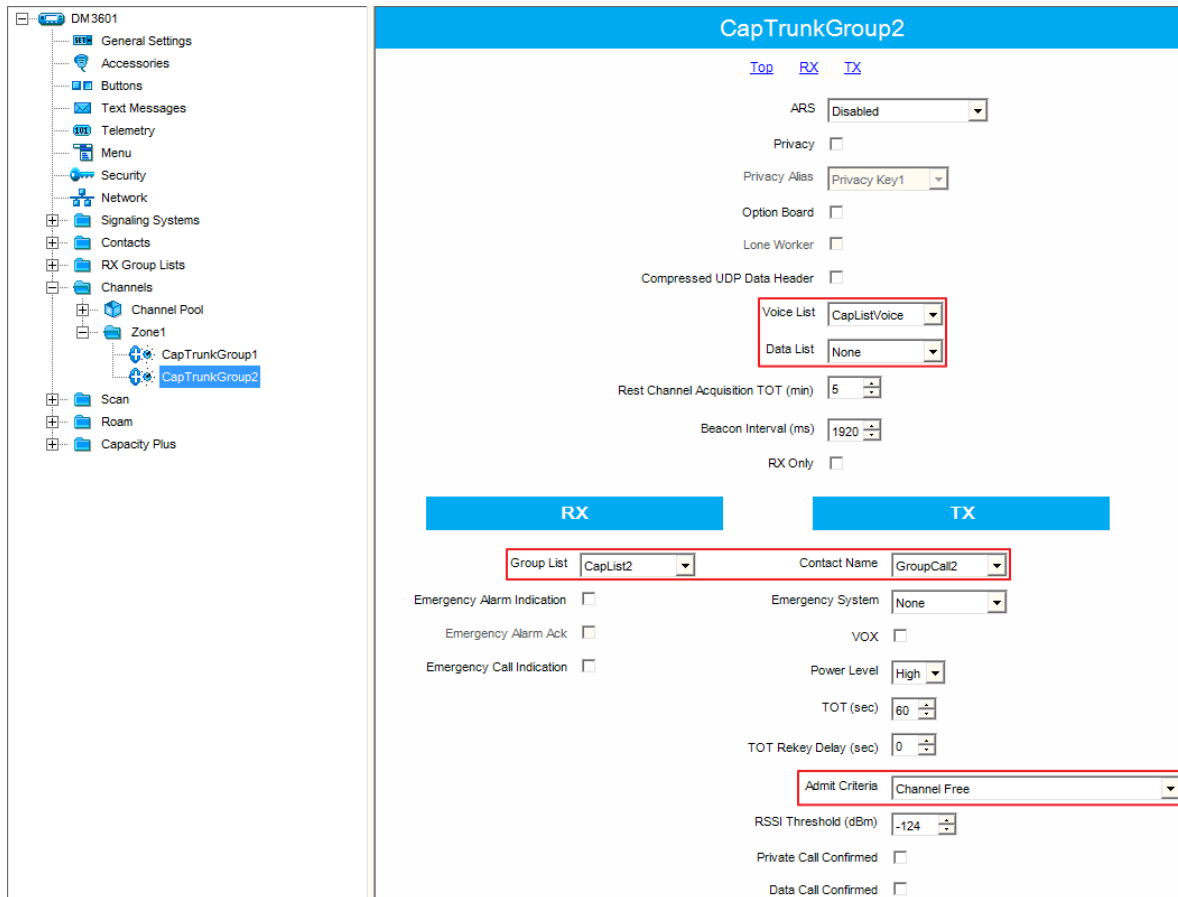

Fig. 18 - Setting parameters for GroupCall2 channel
5. Add **Capacity Plus Voice Channel** for Slave repeater to **Channel Pool**. Set frequency pair of the trunk repeater (Fig. 18).